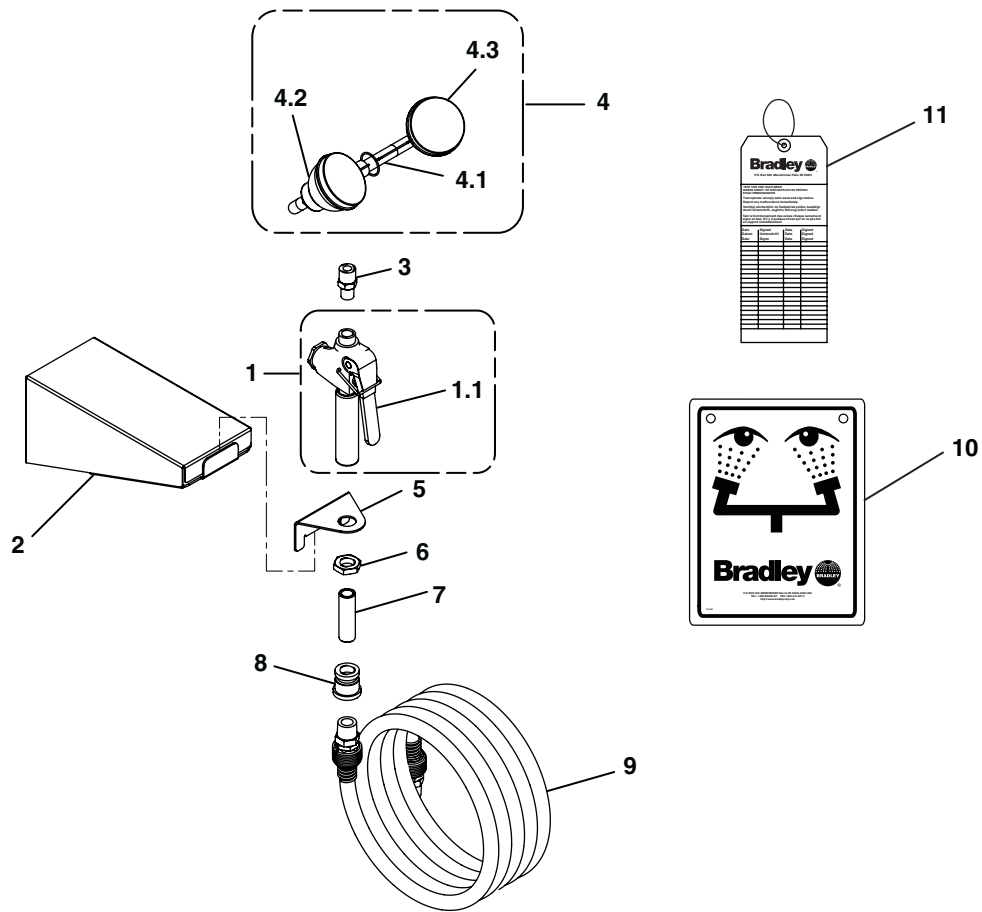

Figure 2
1. Assemble the component parts as shown in Figure 2 on page 4.